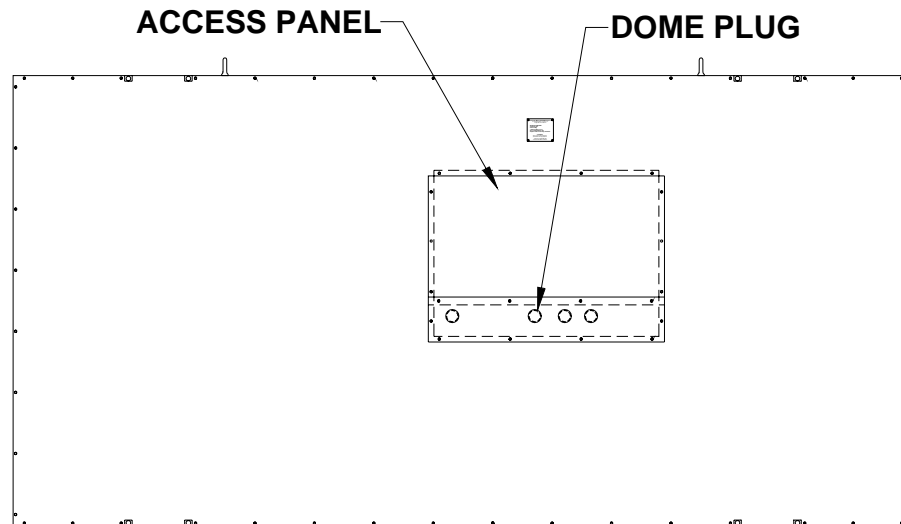

Figure 6 Rear Access Panel
7. Remove the rear access panel and the dome plugs on the plate below the access panel. Figure 6 shows the location of the access panel and the dome plugs.